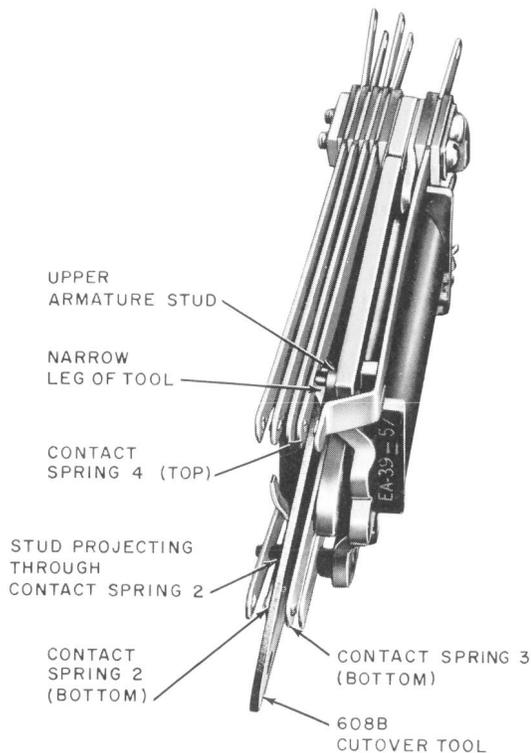

Fig. 35—Blocking EA39 Relay for Cutover Purposes
(3) **EA39 Relay:** Fig. 35—Using the 608B